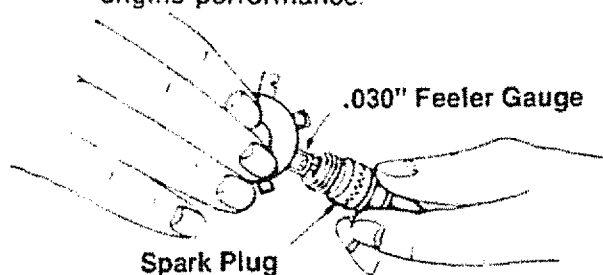

FIGURE 47.
1. Remove the spark plug each time you change the oil and inspect it. See figure 47.